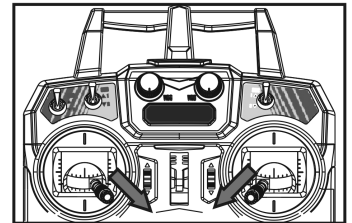

Figure 14
- Move the left control stick to the lower right and at the same time the right control stick to the lower left (see figure 14).